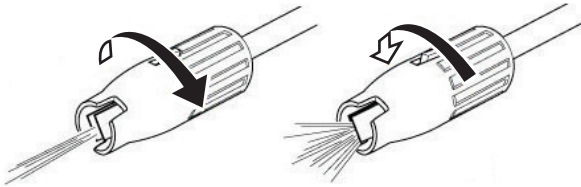

Figure 12
2. Twist the nozzle with the other hand. See figure 12.